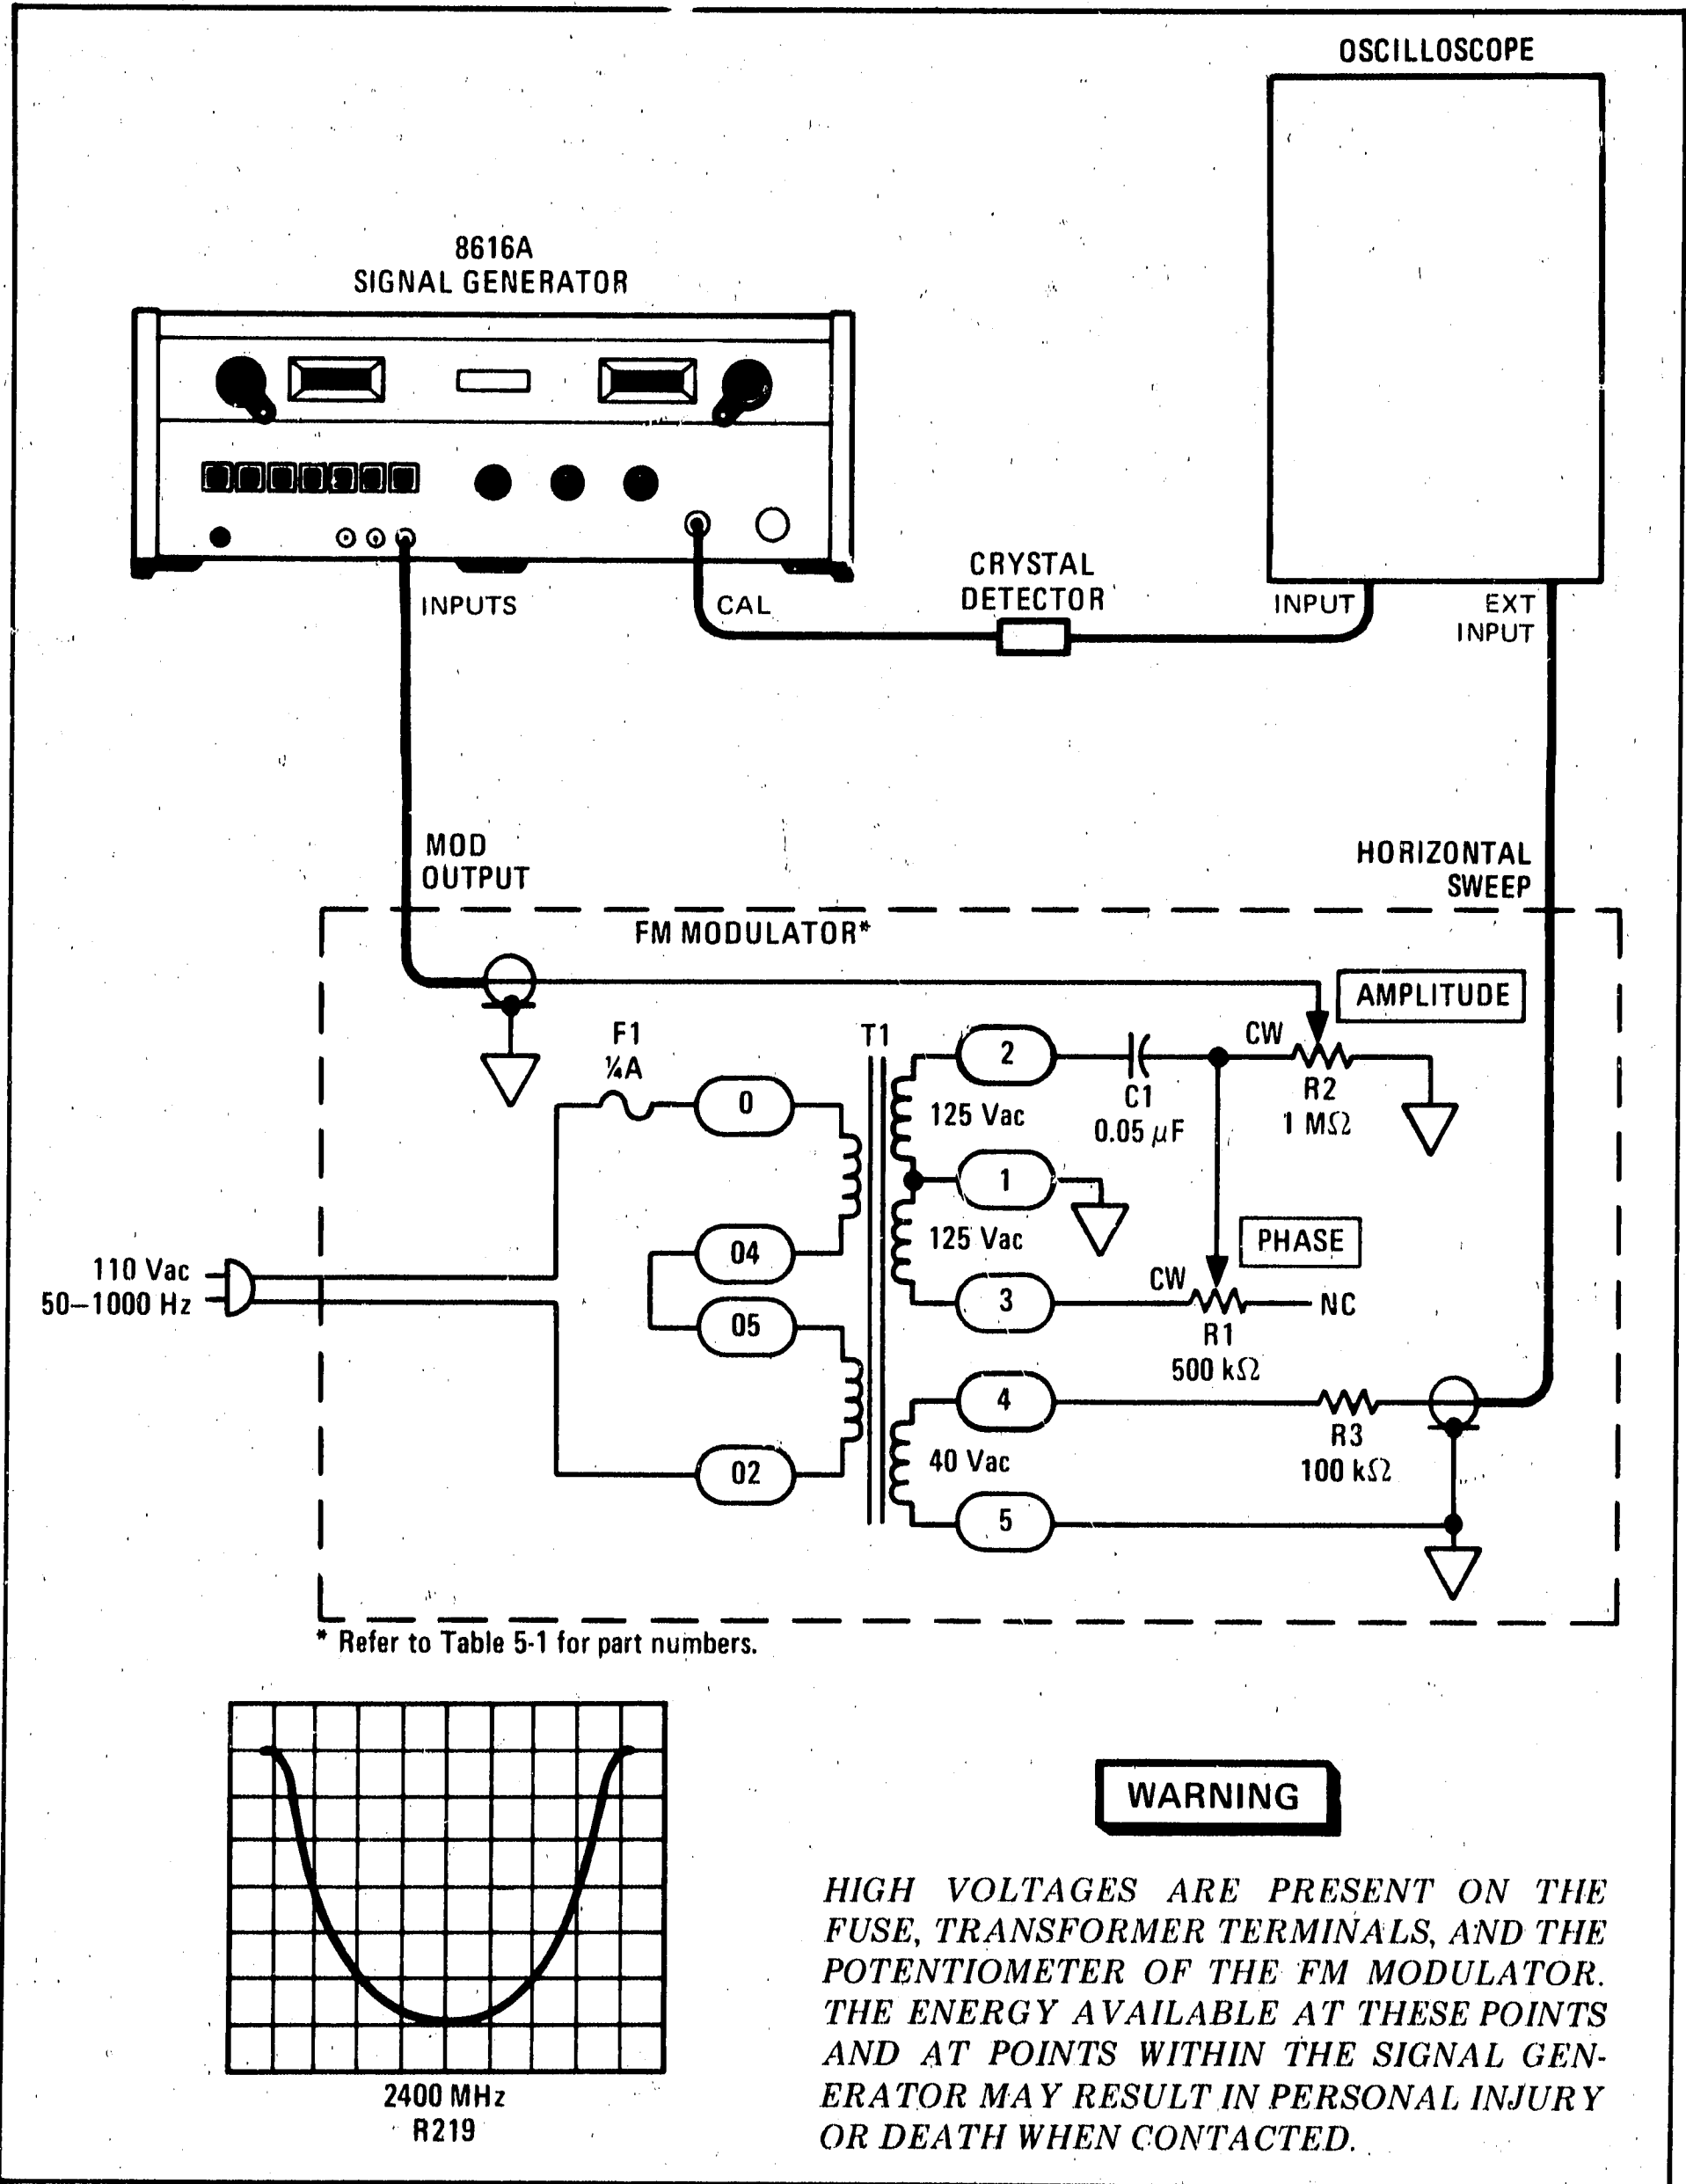

Figure 5-5. Frequency Tracking Setup
c. To observe repeller modes of the klystron, a FM Modulator, with adjustable phase and amplitude controls, is necessary. Such a device is shown in Figure 5-5; it consists of a small power transformer connected with the primary and secondary windings interchanged; two potentiometers (1 M $\Omega$  and 500 k $\Omega$ ); a 0.05  $\mu F$  capacitor; two BNC connec-
d. Apply external FM (60 cycles) and view mode patterns on oscilloscope. Adjust PHASE control of FM modulator and adjust tracking pot (R219) for mode pattern shown in Figure 5-5.